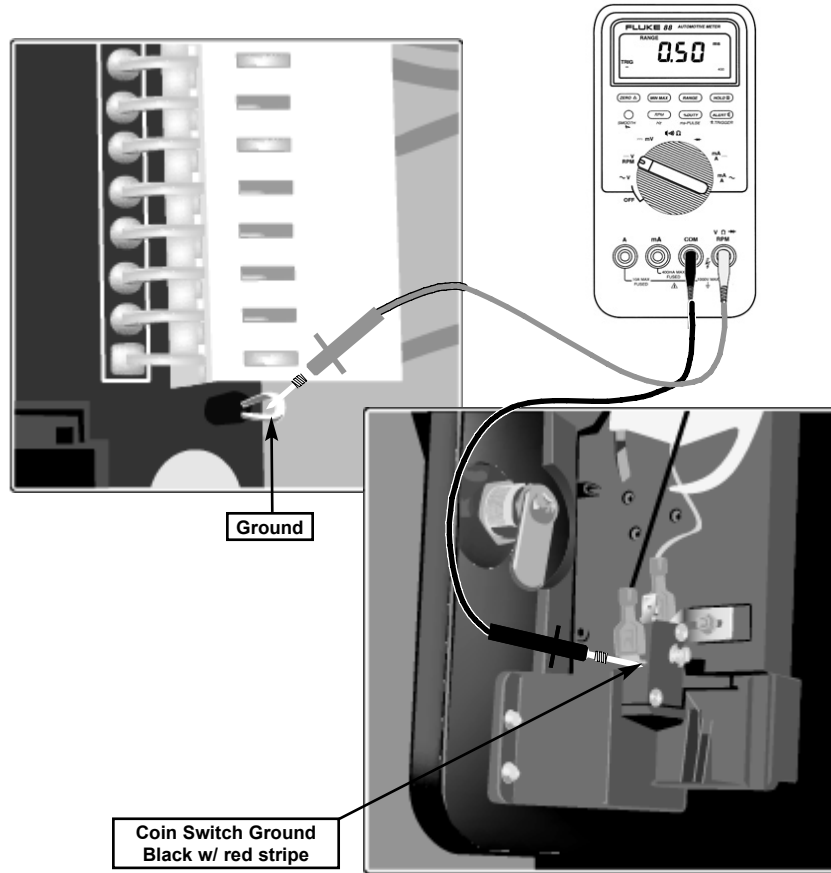

Figure 4
3. Touch the ground lead from the multimeter to one of the ground test points on the mainboard (Figure 4).
4. Touch the positive lead to one of the ground connectors on the coin switch (Figure 4). Ground is the black wire with red stripe. The wire harness will measure about 0.2 Ohms or less on a new harness. Problems are caused if the wire harness measures 0.5 Ohms or above. If the resistance is more than 0.5 Ohms, checks can be made between the ground connector and the following points to find a possible bad connection.